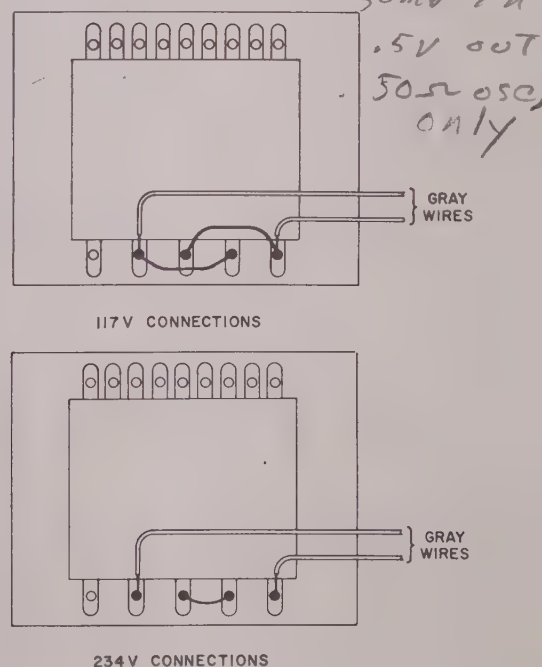

FIGURE 5-1
- b. Change the transformer primary connections by moving the jumpers indicated on the primary connection sketch; Figure 5-1